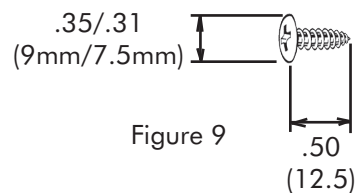

Figure 9
1. A #8 pan head wood screw should be used to properly secure the overlay panel. A total of 8 screws per drawer for the 60 unit and 10 screws per drawer for the 80 unit will be required. (See Figure 9). Necessary screws are supplied with unit.